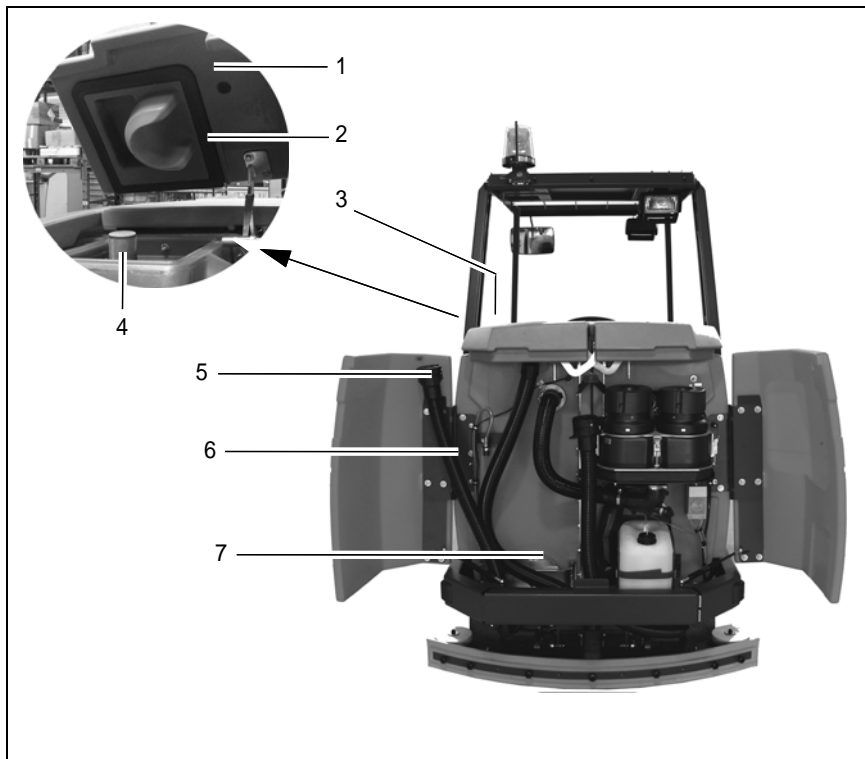

Fig. 28
The recovery tank (Fig. 28/3) must be emptied and flushed clean after finishing work.
1. Park the vehicle so that the waste water draining hose (Fig. 28/6) can be positioned over a drain in the floor.
3. Detach the waste water draining hose (Fig. 28/6) and lower it slowly.
4. Unscrew the screw cap (Fig. 28/5). The quantity drained can be regulated by turning the cap and pivoting the cap open fully, if necessary.
Clean the recovery tank (Fig. 28/3) every day or as necessary. The cleaning flap (Fig. 28/7) is available for this.
7. Open the recovery tank cap (Fig. 28/1).
10. Unhook the waste water draining hose (Fig. 28/6), lower it slowly and open the cap (Fig. 28/5).
- Clean the screw cap on the waste water draining hose (Fig. 28/6) daily.